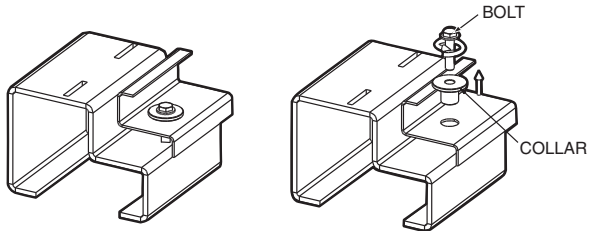

Fig. 26 — Compressor Rack Holddown Bolts
Step 2 — Remove Compressor Rack Holddown Bolts — The 30RB units are shipped with holddown bolts securing the compressor rail assembly to the unit base frame. These bolts are red and are located between the compressors in the front and rear of the compressor rail assembly. These bolts and holddown assemblies must be removed for the vibration isolation system to operate properly. Using a 15mm socket, loosen and remove the bolt and collar assembly as shown in Fig. 26.